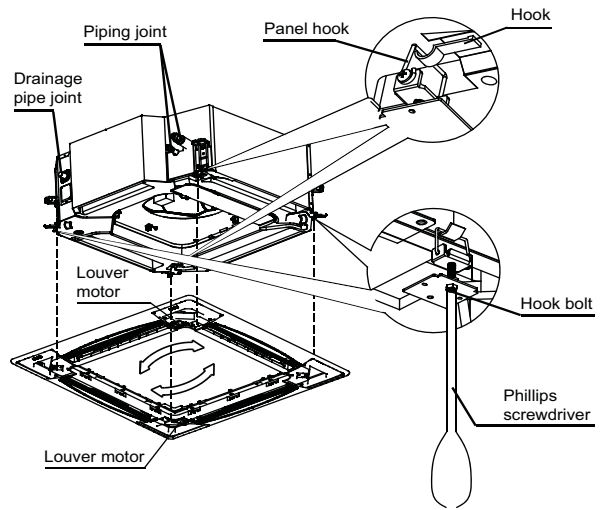

Fig. 9 — Mounting Panel
4. Secure the panel (without the grille) onto the unit, using M5 x 16 screws and washers. Before tightening the screws, be sure the panel is flush with the false ceiling. See Fig. 9.